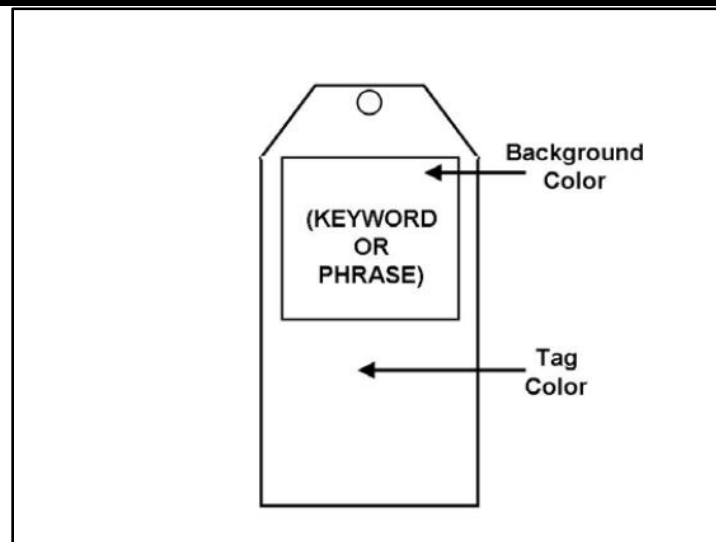

Figure 9-2. Accident Prevention Tag Legend
- 9.6.13.1 Use.** Temporary means of warning employees of an existing hazard, such as defective tools, equipment, etc. (Figure 9-2, Table 9-3, and Table 9-4). They shall not be used in place of or as a substitute for locks, accident prevention signs, or special conditions tags as defined in Facilities Instructions, Standards & Techniques (FIST) 1-1, *Hazardous Energy Control Program*. For guidance on Lock out/Tag Out procedures, see Section 15, *Control of Hazardous Energy (Lockout/Tagout)*.